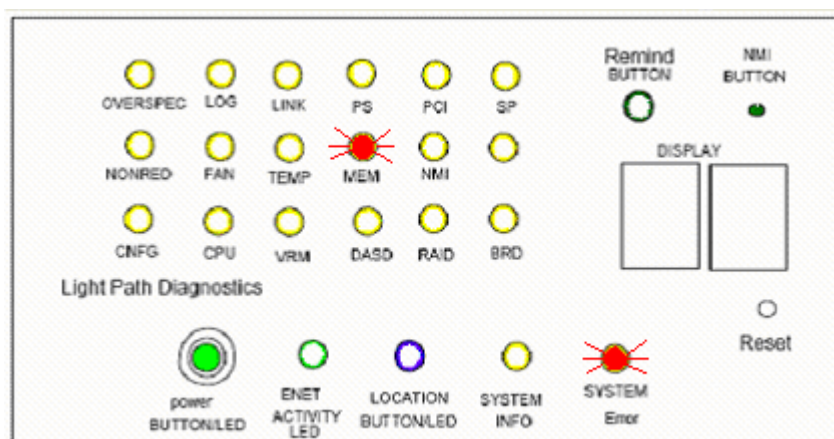

Figure 1: Light path diagnostics panel with the lit MEM and system-error LEDs
- The light path diagnostics MEM LED is lit (in some servers). See Figure 1.